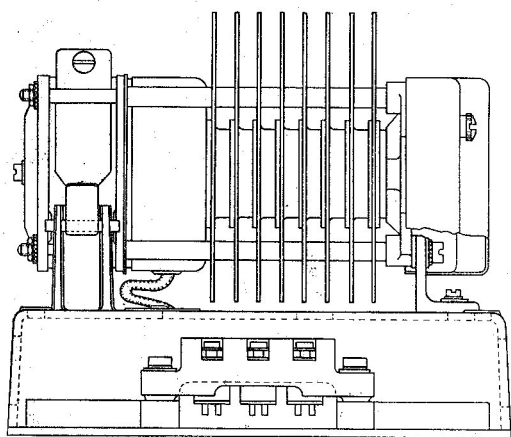
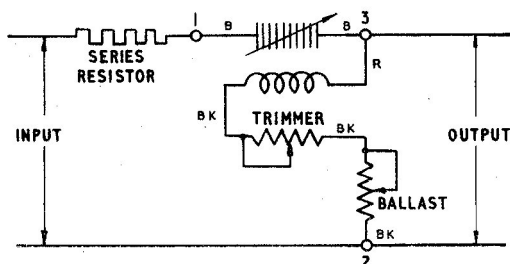

Fig. 1. Voltage regulator, Type 100
Fig. 3. Circuit diagram
3. The voltage regulator, Type 100 (fig. 1), is of the series carbon pile type, where the pile is connected in series with the input and the operating coil across the output. The regulator unit is mounted on a base, the leads from the coil and pile and from the ballast and trimmer resistors beneath the base being brought out to a 3-way terminal block. The pile is connected across terminals 1 and 3 (fig. 3), and incorporates eighteen 3-mm. washers and seventeen 1-mm. washers assembled alternately, with a 3-mm. washer at each end. The pile is $2\frac{7}{8}$ in. long.